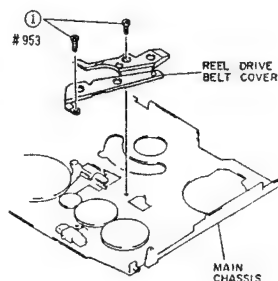

Fig. 2-72
- 1) Remove two (2) screws holding the reel belt cover. (See Fig. 2-72)